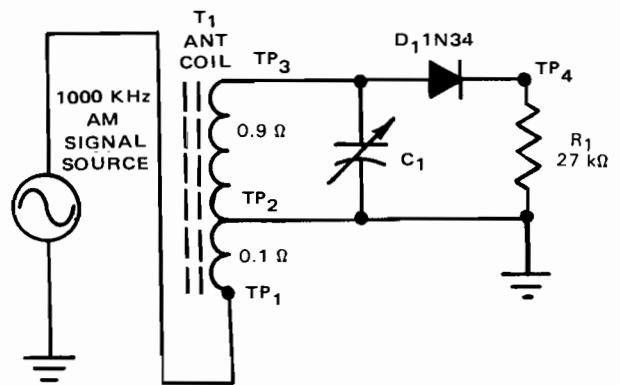

Fig. 20-3-1
1. Connect diode detector circuit like that which is shown in Fig. 20-3-1.